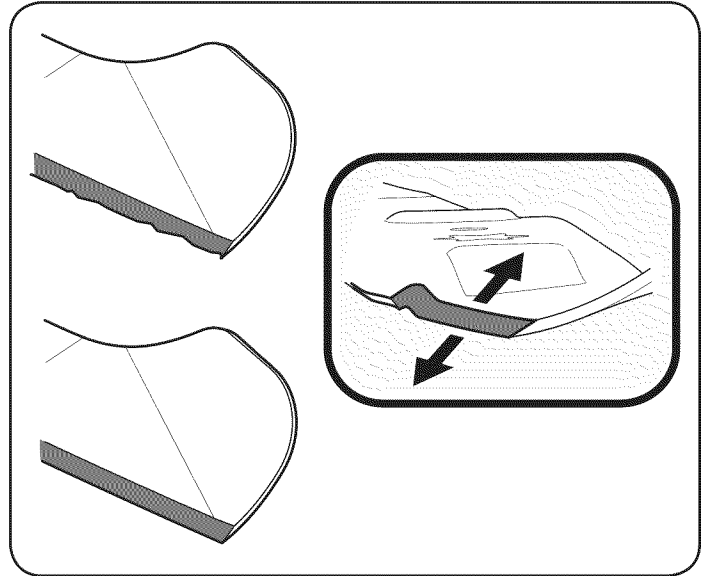

Figure 29
4. To properly sharpen the cutting blades, remove equal amounts of metal from both ends of the blades along the cutting edges, parallel to the trailing edge, at a 25°- to 30° angle. Always grind each cutting blade edge equally to maintain proper blade balance. See Figure 29.